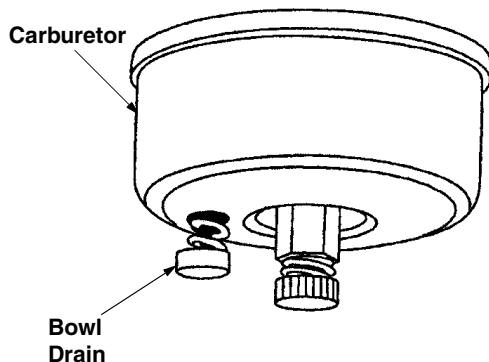

Figure 31
- Drain carburetor by pressing upward on bowl drain, located below the carburetor cover. See Figure 31.